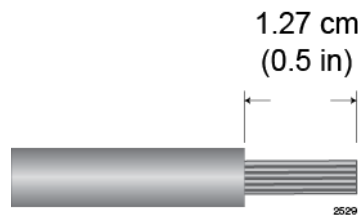

Figure 131. Stripping the Power Wires
1. Prepare adequate lengths of two stranded 8 AWG power wires by stripping them as shown in Figure 131.